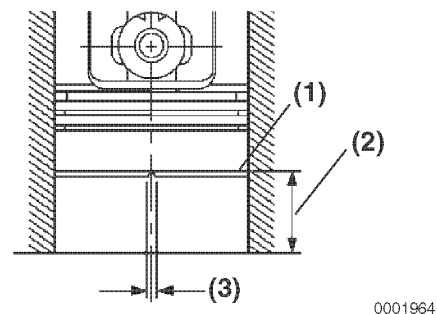

Figure 6-54
10. To measure piston ring end gap, insert each compression piston ring (**Figure 6-54, (1)**), one at a time, into the cylinder. Use a piston with the piston rings removed to slide the ring into the cylinder bore until it is approximately 1.18 in. (30 mm) (**Figure 6-54, (2)**) from the bottom of the bore.
11. Remove the piston. Measure the end gap (**Figure 6-54, (3)**) of each piston ring. Record the measurements. See *Piston Ring on page 6-11* for specifications.